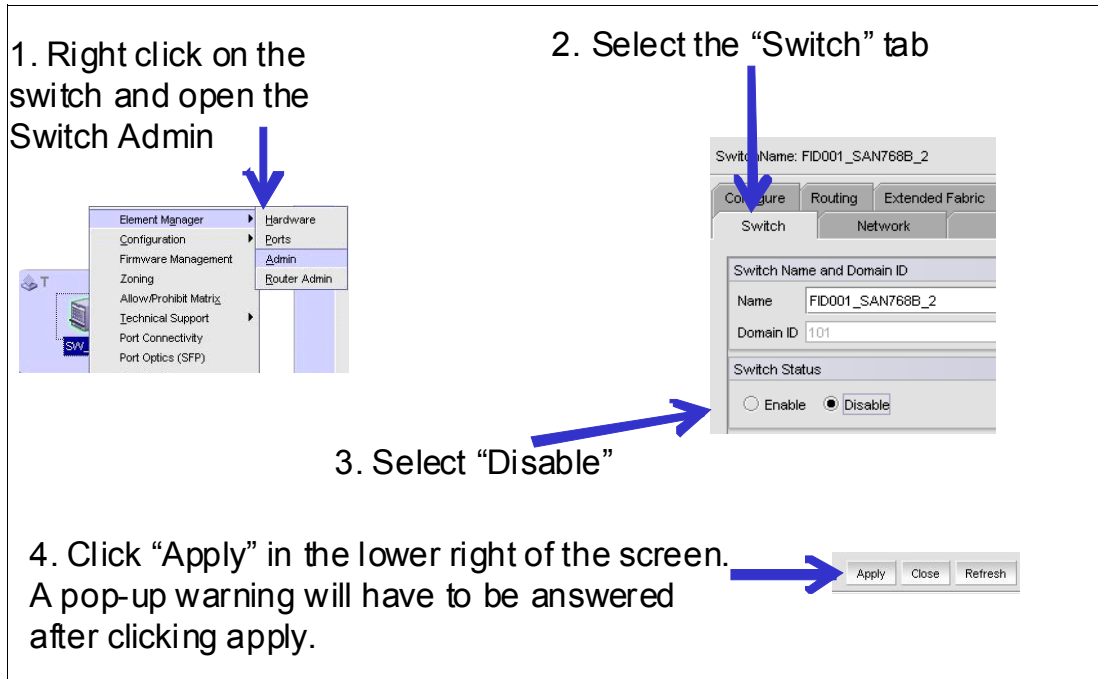

Figure 8-36 Domain ID configuration
2. Select the **Switch** tab, and then select **Disable** in the Switch Status field. lick **Apply**, as shown in Figure 8-36 on page 276.